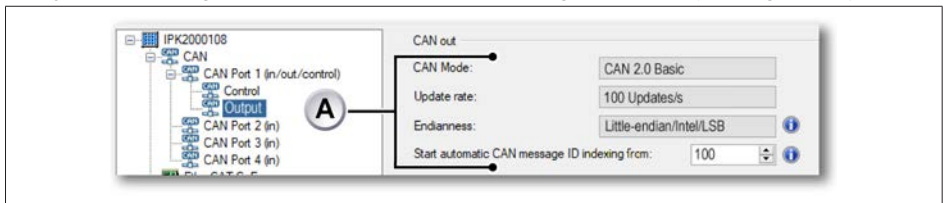

Fig. 12.16 CAN out settings
- Apply these settings to make the CAN output settings available (see Fig. 12.16)